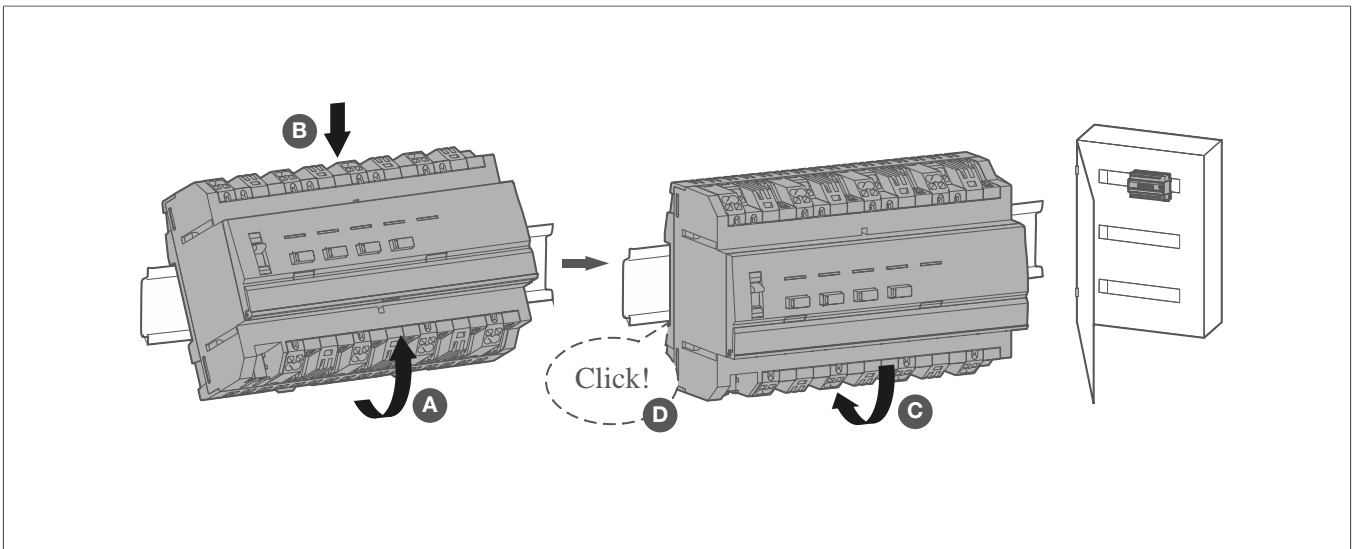

Fig. 5: Installing the device on the DIN rail
- 1 Install the device on a TH 35 7.5–15 DIN rail according to IEC 60715:2017 / EN 60715:2017 (Bild 5).